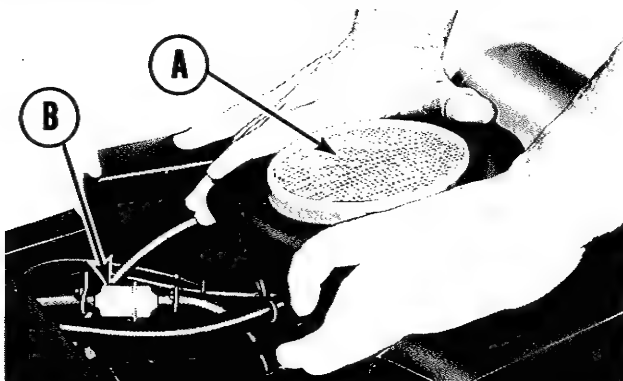

Figure 27. Air cleaner and fuel filter as seen from right of tractor.
CLEAN ENGINE AIR FILTER: See figure 27. The air cleaner element (A) should be removed and cleaned every 50 hours or more often under dusty operating conditions. Proceed as follows:
2. Using the palms of both hands, push the rubber lips down as shown in figure 27.
REPLACE FUEL FILTER: See figure 27. The fuel filter (B) is located in the fuel suction line between the fuel tank and fuel pump. **CAUTION: DO NOT REMOVE THE FUEL LINES FROM THE FUEL FILTER WHEN THE ENGINE IS HOT.** After determining that the engine is cool, squeeze the spring clamps on each side of the filter and remove the fuel filter. Install the new filter, fastening the hoses at each end with the spring clips.
REPLACE THE AIR CLEANER ELEMENT: See figure 27. The air cleaner element should be replaced every 200 hours or oftener if dusty operation conditions cause it to become too dirty to be cleaned effectively. A new filter element should be purchased from your Simplicity dealer. Be sure the rubber lips are sealed around the new filter before operating the engine.